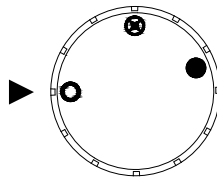
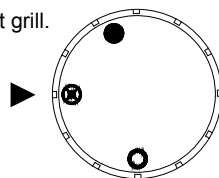

Fig. 22a
Fig. 23a
3. Push in gas control knob slightly and turn clockwise  to OFF "O" position. (See Fig. 22a)
4. Wait (5) minutes to clear out any gas. Then smell for gas, including near the floor. If you smell gas, STOP! Follow "B" in the safety information above. If you don't smell gas, go to the next step.
5. Push in gas control knob slightly and turn counterclockwise  to the PILOT "X" position. (See Fig. 23a) Depress control knob.